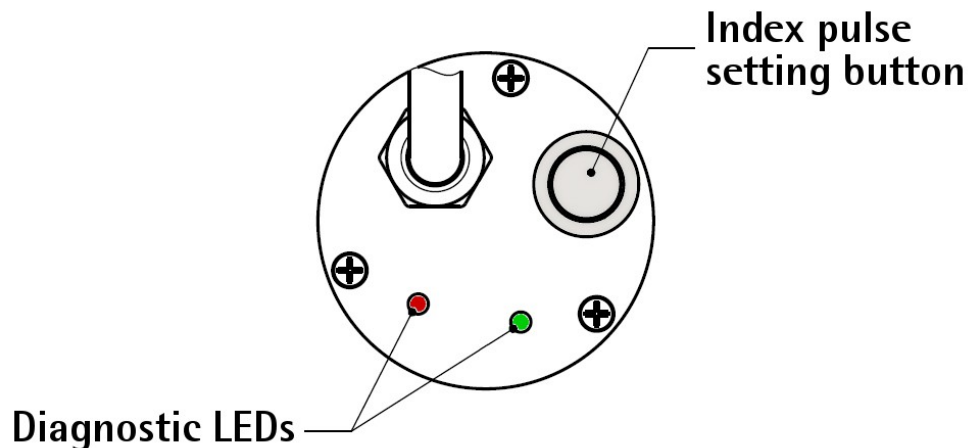

Figure 1 - Diagnostic LEDs and Index pulse setting button
It is possible to set the 0 pulse position also by either pressing the external button located in the rear side of the encoder enclosure -see the "4.11 Index pulse setting external button (Figure 1) (IP-, CKP- models only)" section on page 23 - this option is only available on IP-, CKP- models; or by means of the programming interface -see the **Index position** parameter on page 35 - this option is available on both IP- and IQ- series.
4.10 Diagnostic LEDs (Figure 1) (IP-, CKP- models only)
4.11 Index pulse setting external button (Figure 1) (IP-, CKP- models only)